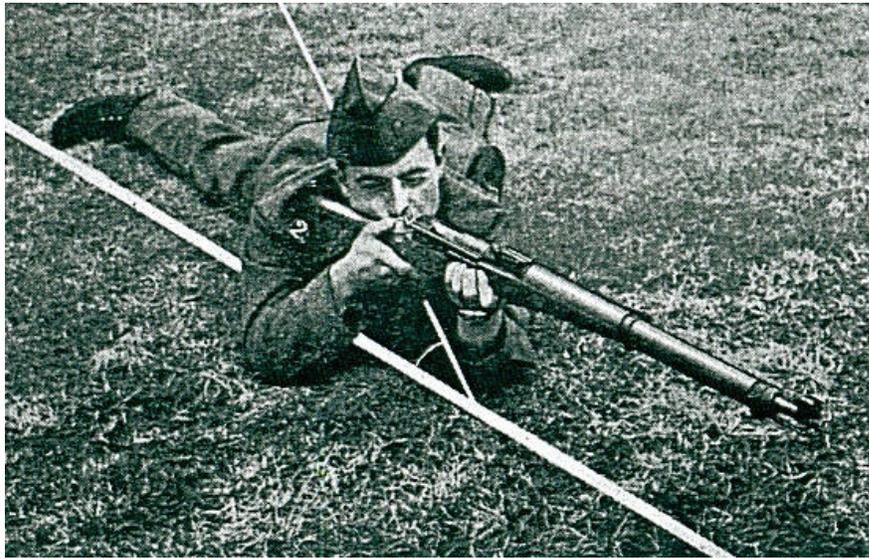

Fig. 38
- 68 In the prone position, the body is at a slight angle in relationship to the direction of the shot, the two elbows are supported (Fig. 38). In the standing position, the left arm supports the weapon close to the center of gravity, the elbow is free or supported against the body; the right arm is nearly horizontal (Fig. 39 & 40)